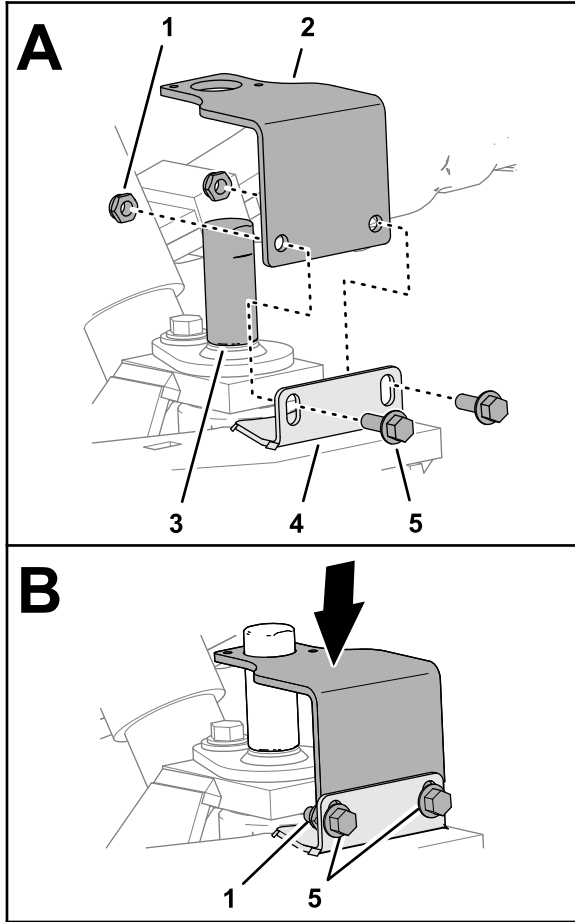

Figure 7
3. Align the sensor bracket over the alignment tool and the slots in the flange of the spindle (Figure 7).
4. Loosely assemble the bracket to the flange (Figure 7) with 2 flange-head capscrews (1/4 x 3/4 inch) and 2 locknuts (1/4 inch).
5. Position the bracket to the bottom of the slots in the flange of the spindle, and tighten the flange-head capscrews and locknuts (Figure 7).